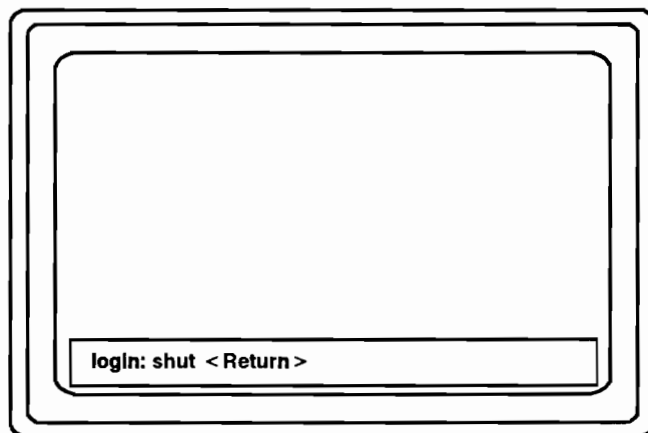

Figure 5-5. Shutting Down
4. To initialize the daemons, shut down and reboot your system. First log out of your system. Then shut down your system as shown in Figure 5-5: